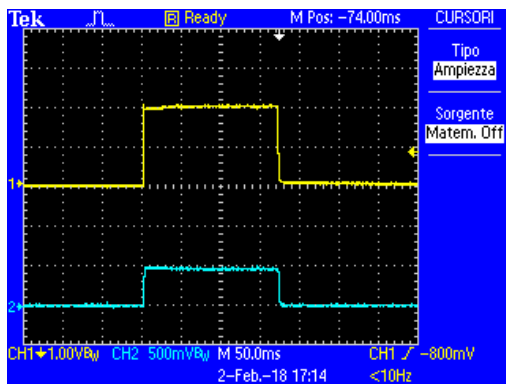

Fig. 6a
- Check that the resulting values are correct respect values in the table below and then check the wave-length by comparing it to the typical wave-lengths shown in figures 6a (60 kV) and 6b (100 kV) below.